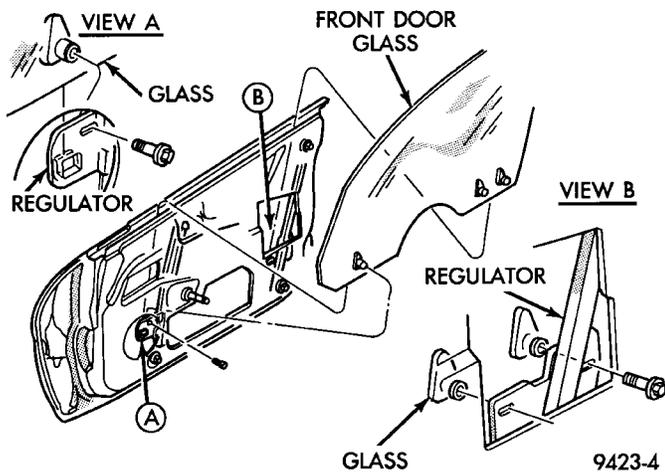

Fig. 17 Front Door Glass
- (1) Remove door trim panel and water shield.
- (2) Remove inner door belt weatherstrip.
- (3) Loosen window inner belt stabilizer.
- (4) Lower door glass to bottom of door to gain access to attaching bolts.
- (5) Remove bolts holding door glass to window regulator lift plates (Fig. 17).
- (6) Disengage door glass from regulator.
- (7) Lift door glass upward out of the opening at the top of door.